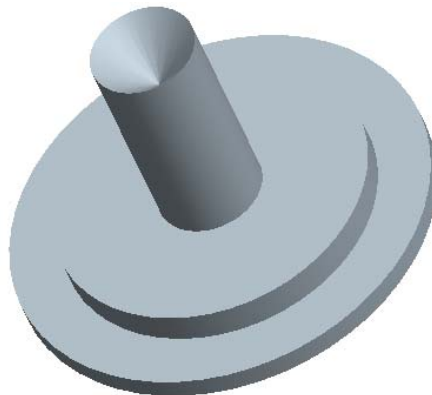

Figure 3-56 Default trimetric view of the model
2. Choose the **Build feature** button in the **Extrude** dashboard. The model appears, as shown in Figure 3-56.